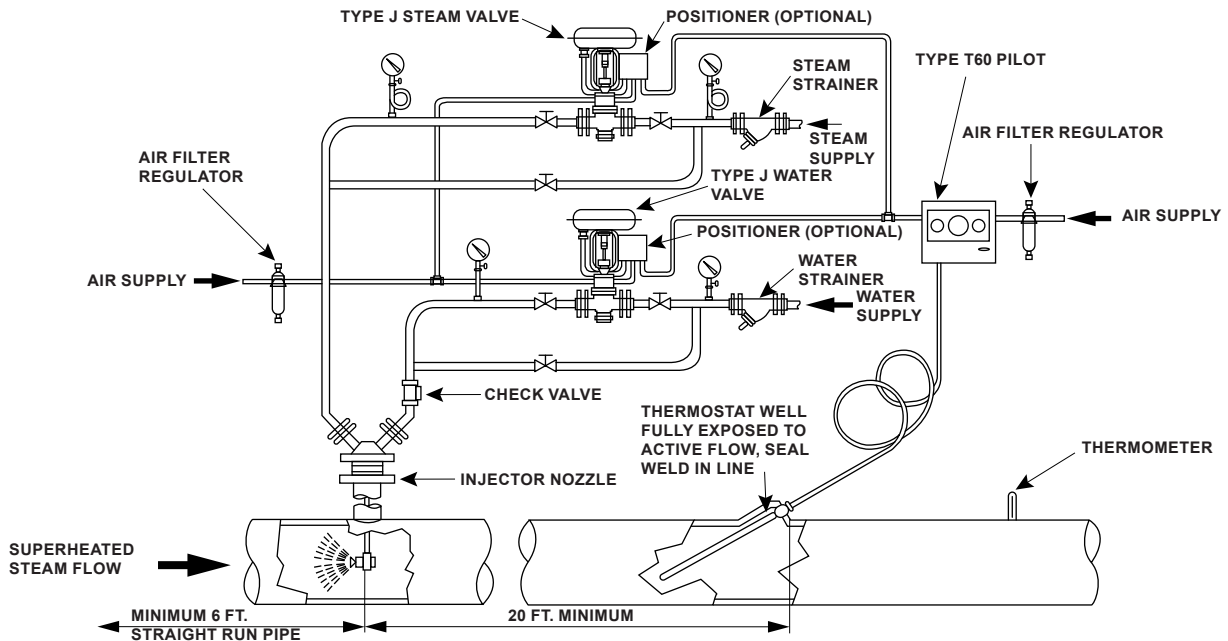

Figure 2. Air-Operated, Mechanical-Atomizing Desuperheater Station Installation
2. Install the control valve and strainer as shown, with the arrows pointing in the direction of flow. See Figure 2.
8. Install the required pressure gages and thermometer as shown in Figure 2.